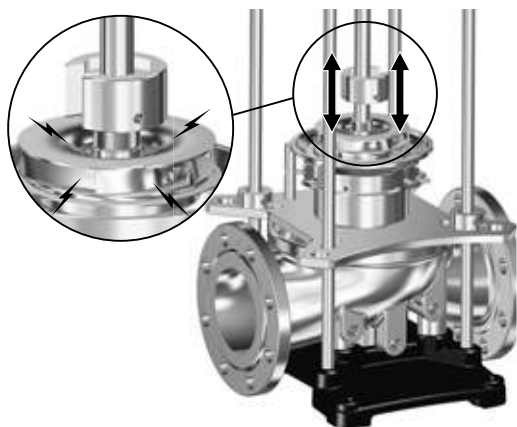

Fig. 27 Fixating the impeller (49 or 49a) to the pump shaft (51) with service tool C
1. Install the inlet part (44) over the pump shaft (51) which is placed in service tool H1 or H2.
4. Turn service tool C around and knock it against the split-cone (49b) to fixate the impeller (49 or 49a) to the pump shaft (51). See fig. 27.